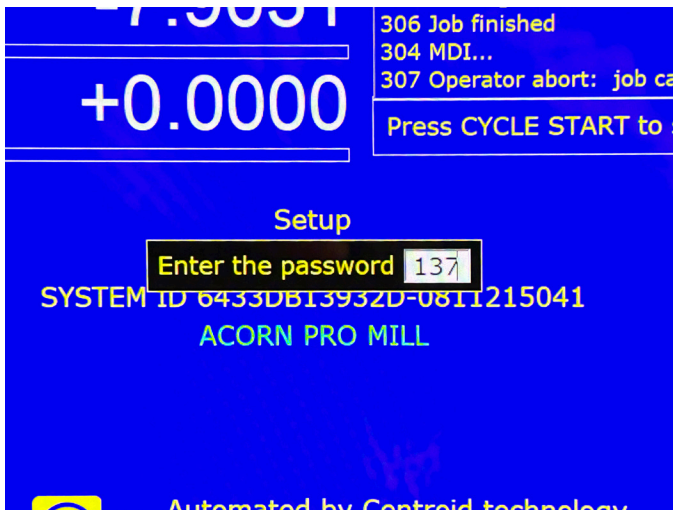

FIGURE 1
1. Click on “Set up F1,” then click on “Config F3.” Enter the password (137) and hit Enter (see Figure 1).